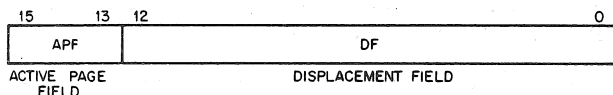

Figure 11-2 Interpretation of a Virtual Address
The basic information needed for the construction of a Physical Address (PA) comes from the Virtual Address (VA), which is illustrated in Figure 11-2, and the appropriate PAR set.